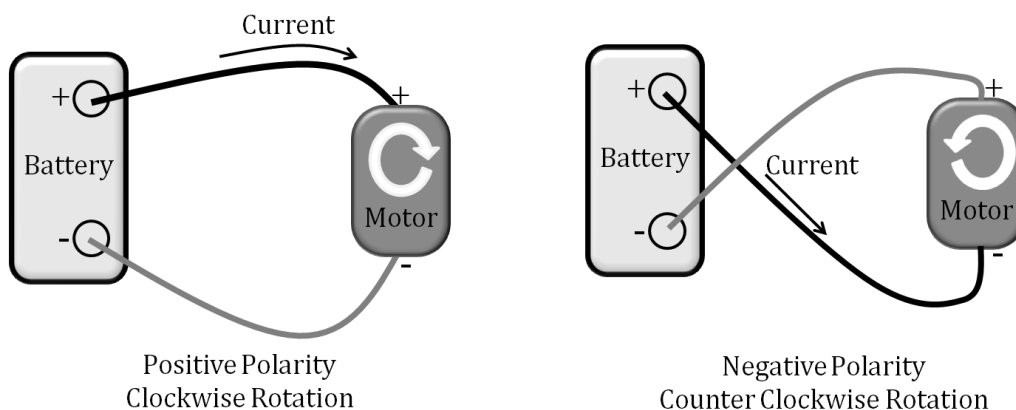

Figure 8
- Have students experiment with the motors before moving to the construction of the main body. Provide each student team with two alligator clip wires, a motor and a 1.5 V (AA) battery. Have them connect the motor's terminals with the battery's poles. Ask them to reverse the polarity and note down their observation (see Fig. 8).